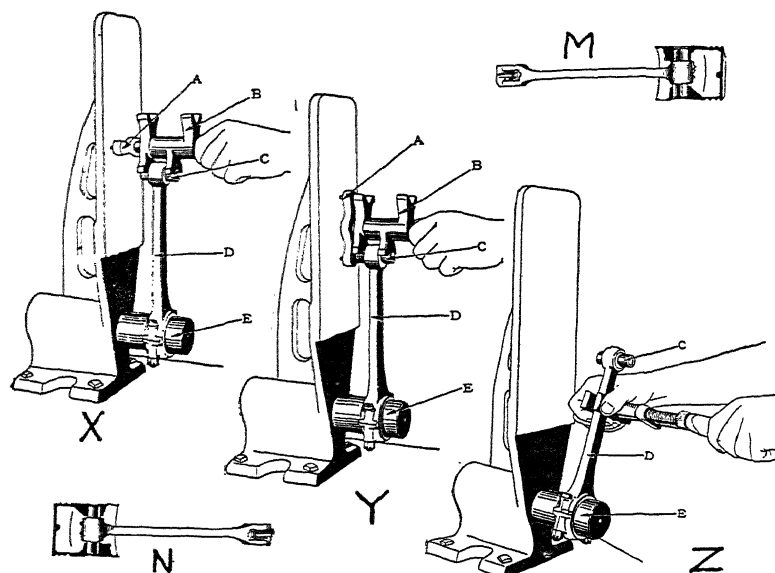

Fig. 15. X—Checking Rod for Twist
**Aligning Connecting Rods.** Connecting-rod aligning jigs are used in all shops. These are supplied in a variety of forms. The fixture shown at X, Y, and Z in Fig. 15 consists of an arbor *E* which is at right angles with the surface of the plate. The connecting rod to be tested is fitted on to the arbor. Jigs designed to be universal have varying sized arbors or sleeves which may be fitted over the arbor, so that any standard rods may be tested with one fixture. In Fig. 15, *A* points to a little device which is used to show twist
In testing for connecting-rod side bend or offset, the jig is used as shown at *Y* in Fig. 15 where the part of the fixture *A* has been turned at right angles to the former position shown at *A* in *X*. In this position the two dowels should engage the surface of the jig at exactly the same time, making certain of course that the part *B* is held in firm contact with the piston pin *C*. If the connecting rod is bent, the direction of bend will be indicated by whether the bottom or top pin strikes the surface first. In case the connecting rod is bent, it may be straightened by means of the monkey wrench, as shown at *Z*, after which the check-up shown at *Y* is repeated; and then if this shows O.K., the check-up shown at *X* is repeated to make certain that no twist has been placed in the rod while straightening it.
Abnormal offset is that which has been induced into the rod for some reason or other—mishandling or undue engine strain. In order to check up a rod to find out whether or not an offset exists which would give a condition similar to that shown at *M* in Fig. 15, the connecting rod should be mounted on the mandrel with the pin locked in position in the exact center. Place the end of the piston pin in contact with the surface of the testing jig. With a rule, carefully measure the distance from the connecting rod to the back of the fixture at the point where it is fastened on to the mandrel *E*. Make a notation of this and then reverse the rod on the mandrel and recheck. If there is an offset, this check-up will show it.
In order to remove offset, the rod must be bent at a point just above the big end and then it must be rebent at a point just below the piston pin. After this has been done, the check-up shown at *X* and *Y* in Fig. 15 must be repeated in order to see that there is no twist or bend left in the rod.